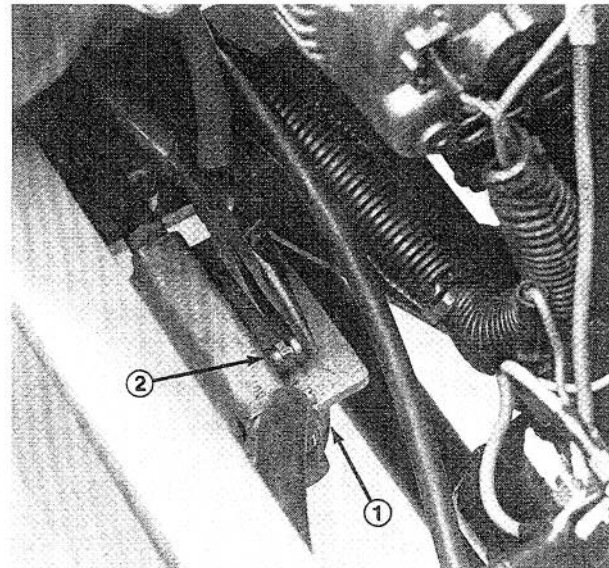

Figure 20
- 2. Loosen air bleed screw on top of fuel filter/water separator (Fig. 20).